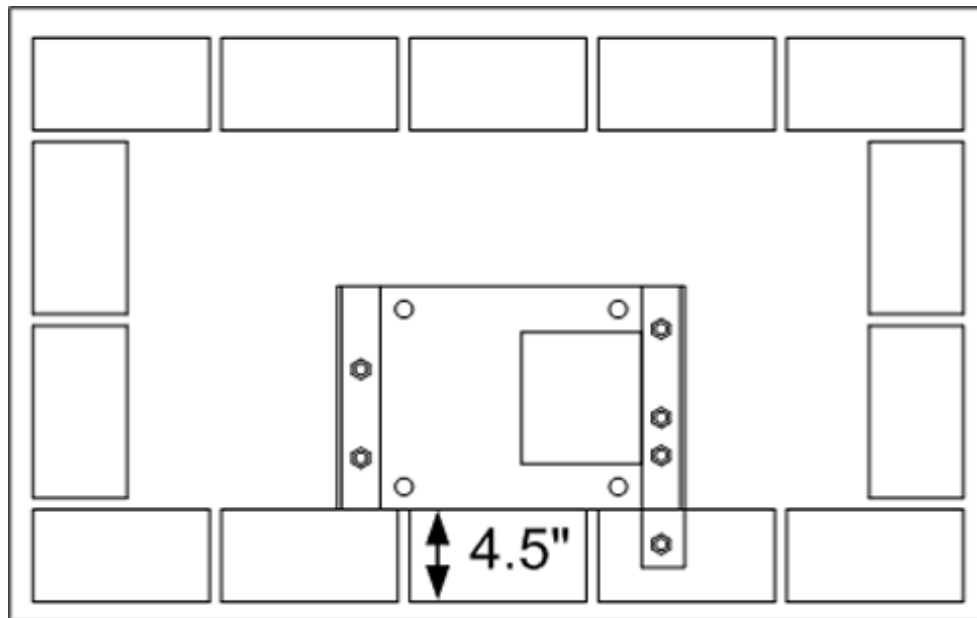
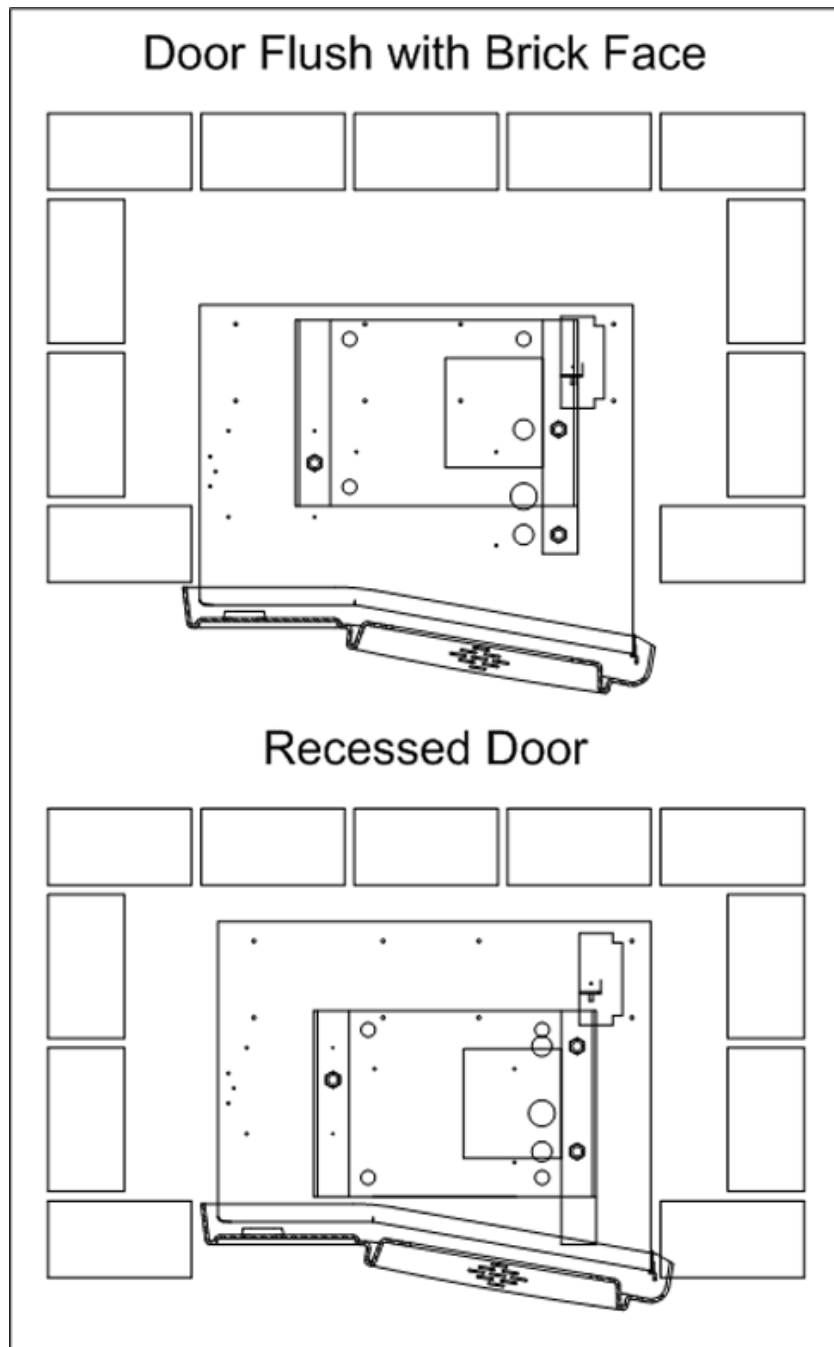
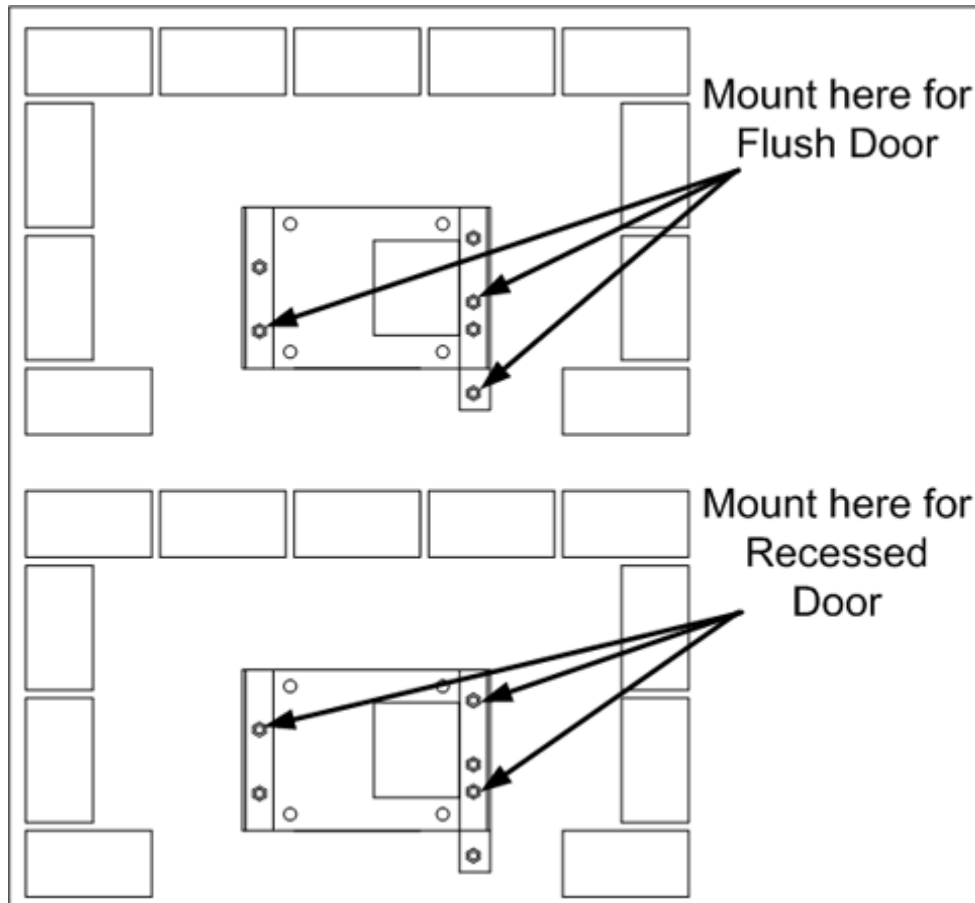

Figure 8. Positioning the Adaptor Plate
Figure 9. Door Positioning Options
Figure 10. Portal Mounting for Bricked-In Installation
The adapter plate should be located so its front edge is recessed 4.50" from the front face of the brick structure (as shown in Figure 8). The adapter plate has (2) sets of mounting holes. One set is used to install the Portal so its front door will be flush with the brick. The other set is used to recess the door within the brick. These (2) mounting options and hole patterns are illustrated in Figure 9 and Figure 10..